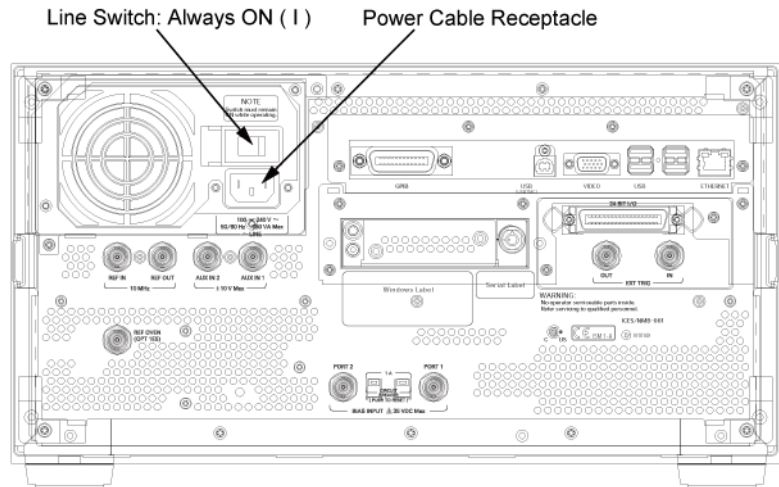

Figure 5 Line switch (Always ON) and power cable receptacle
Step 2. Use the supplied cable to connect between the power cable receptacle (Figure 5 on page 30) on the rear panel of the E5072A and a three-wire power outlet with the grounding prong firmly connected in the ground slot.